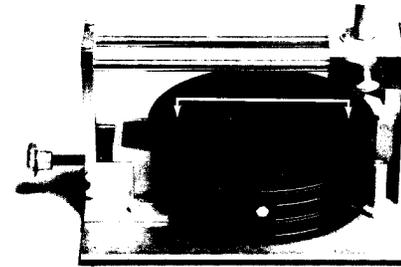
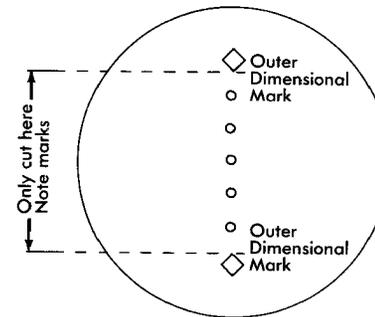

Figure 10 — Positioning End Plate
Figure 10a — Positioning End Plate
6.05 Place end plate with seam parallel to guide rods and hand tighten clamp screw. Note that the holes must be cut along the seam of the end plate halves, and within the outer dimensional marks indicated by the arrows. (Fig. 10)(Fig. 10A).
NOTE: MINIMUM SPACE BETWEEN CABLES IS 1/4" (.64 cm). Do not allow any cable opening to extend beyond the small ridges (see arrows on Fig. 10A) near the outer edge of the joining line of the end plates.